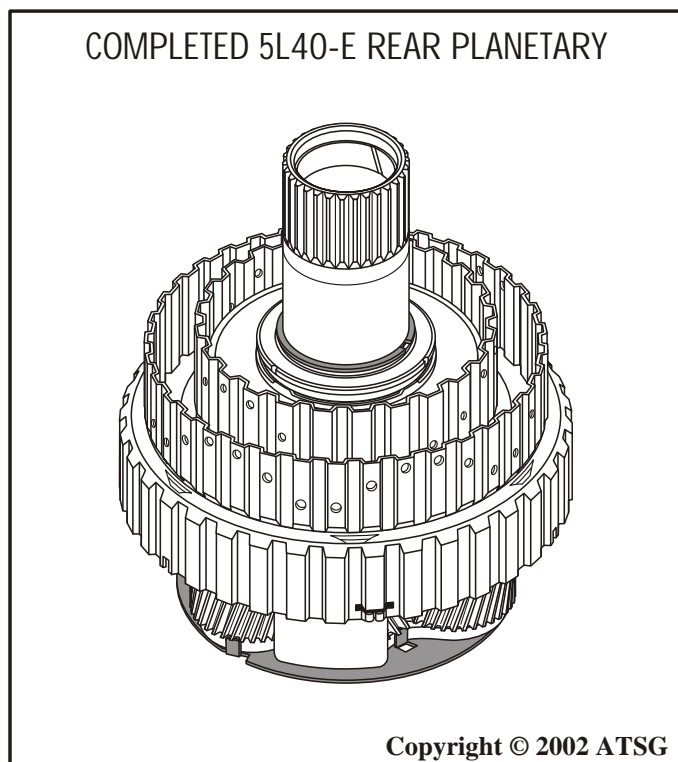

Figure 155
12. Set the completed 5L40-E planetary carrier assembly, as shown in Figure 155, aside for the final transmission assembly process.